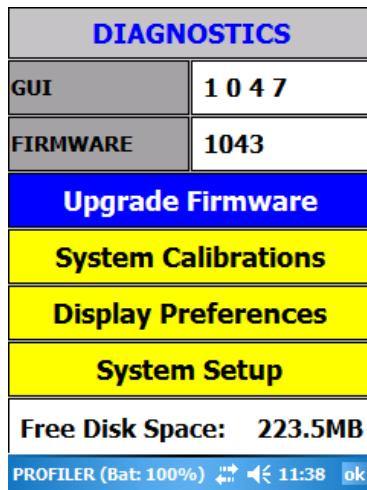

Figure 46: Diagnostics Menu.
- To perform the System Calibrations, select the **Main > Diagnostics > System Calibrations** (Figure 46).